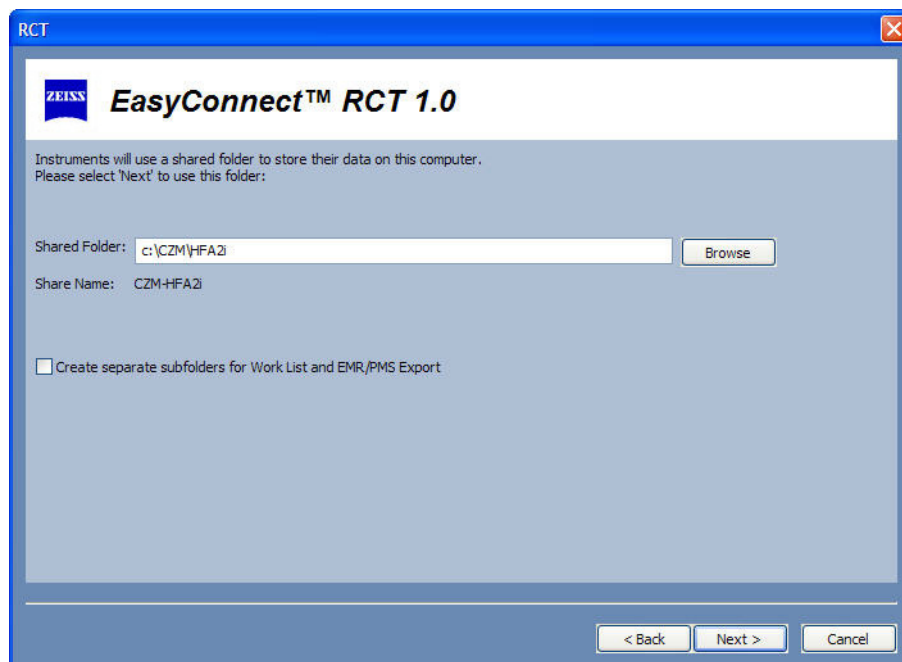

Figure G.9 Enter or Browse for Folder
- 4 If you previously selected a shared folder type of HFA setup, enter the name of the shared folder or select the BROWSE button to locate and specify the shared folder. Select **Create separate subfolders for Work List and EMR/PMS Export** if you want to have separate subfolders inside the shared folder for those features (Figure G.9). This may be required by some EMR products.